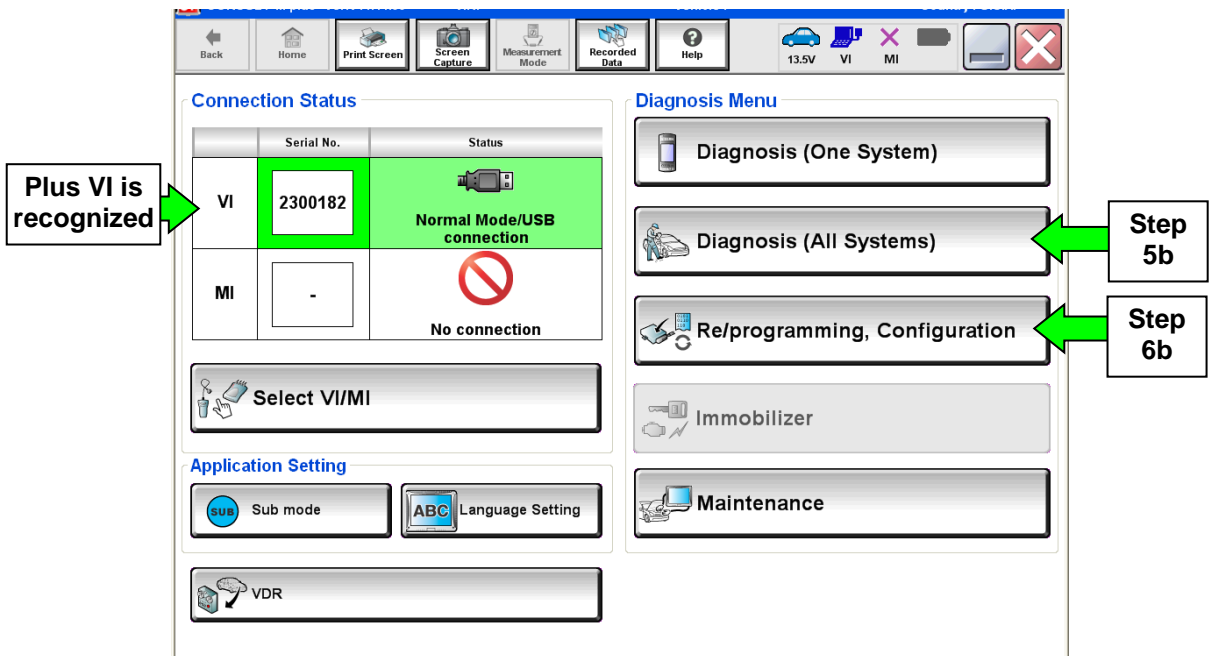

Figure 1
- a. Select the **Home** button, and then **YES** to return to the screen shown in Figure 1.